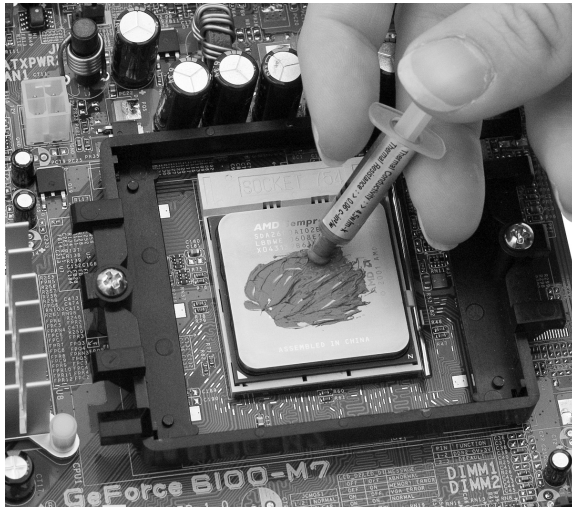

FIGURE 5.11 Applying thermal compound
1. If your CPU has thermal paste pre-applied, remove and discard the protective tape. If not, then apply a thin film of thermal paste to the raised center of the CPU package (Figure 5.11).